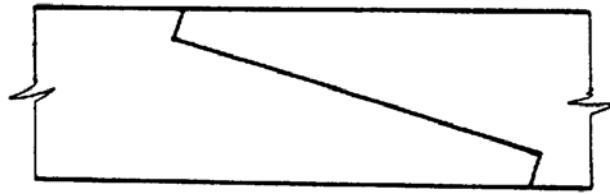

Fig. 7
18. Name the type of lengthening joint shown in Fig. 7.